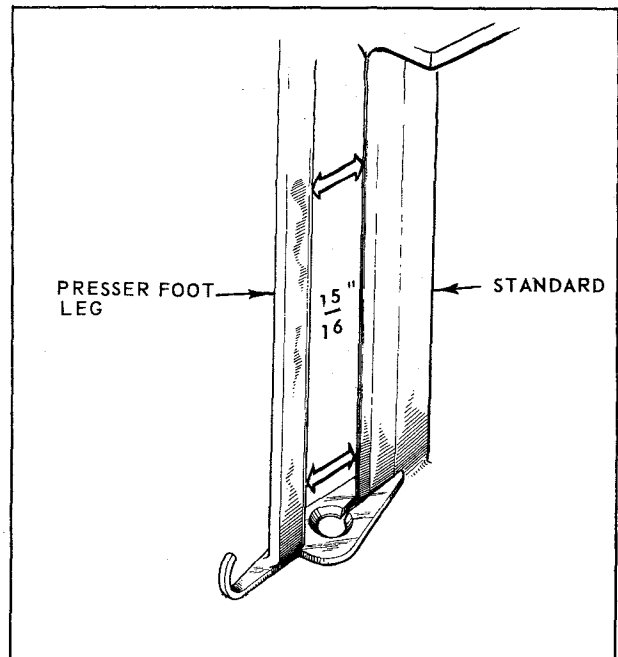

Figure 7.
To obtain a proper and uniform bevel on the machine, it is necessary that the presser foot leg (29) be at the proper distance from the standard. With the presser foot leg all the way down, the distance from the back of the leg to the standard should be equal at both the top of the standard and at the bottom of the standard. For the Model E machine, this distance should be approximately  $15\frac{1}{16}$ " , See Figure 7.